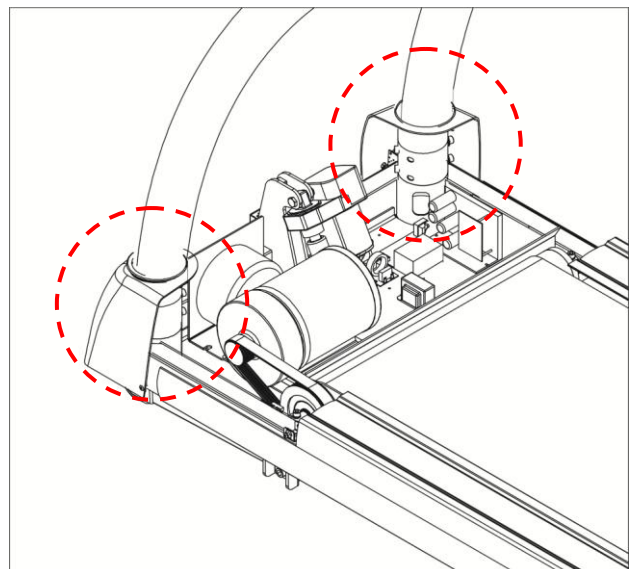

Fig 2.5-4C
- 4) Tighten (6) M12x30mm Screws on the lower console mast (mentioned in STEP 2). (Fig 2.5-4C)